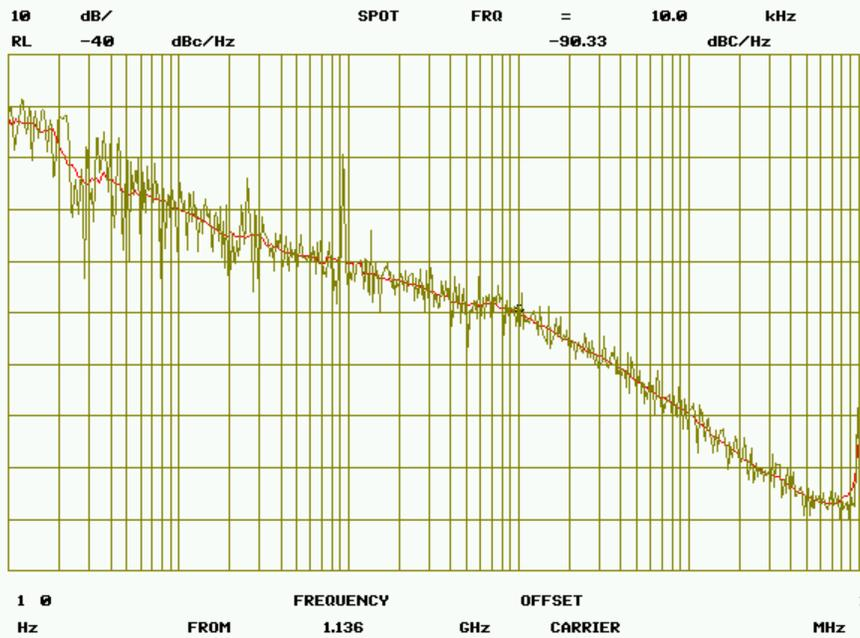

Figure 4, ECS TCXO, 1136 MHz, 1MHz phase detector update
**Figure 4** shows a phase noise plot using the internal ECS 10MHz TCXO when the synthesizer is tuned to 1136 MHz. The readings from this plot are as follows: